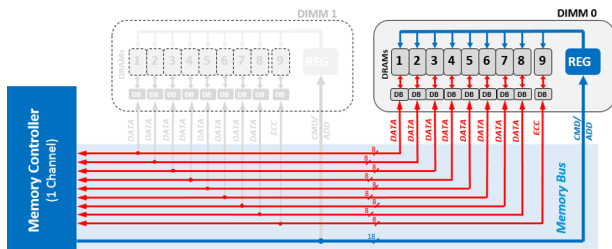

Figure 1-5: An LR-DIMM in a 2SPC system in a 1DPC configuration.
LR-DIMM, or load-reduced DIMM, adds data buffers (DB) on the DIMM between the memory controller and DRAM in order to reduce electrical loading on the data signals of the memory bus. Figure 1-5 shows an LR-DIMM in a 2SPC system in a 1DPC configuration.